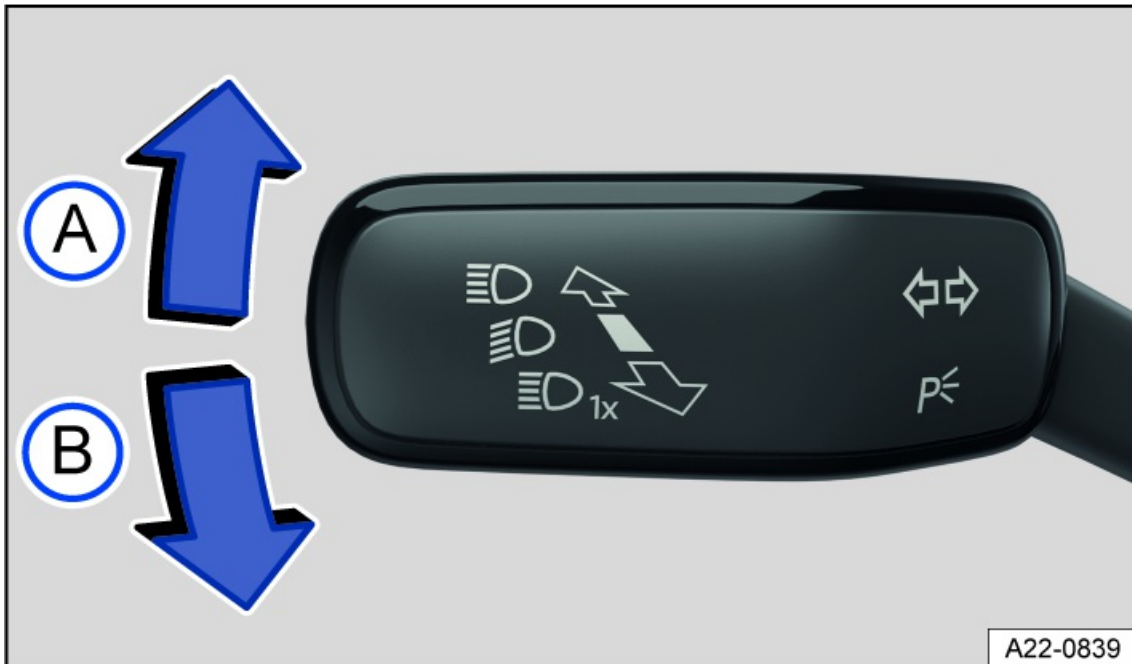

Fig. 100 On the left side of the steering column: turn signal and high beam lever.
2. Move the lever out of the center position into the desired position *fig. 100*.